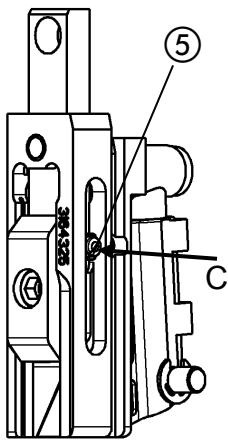

Fig. 28
- Fig. 28, Fig. 29, Fig. 30 -
- Press actuating pin ⑤ into the bender (arrow C) until the pin retainer ④ protrudes far enough from the bender to enable it to be turned.